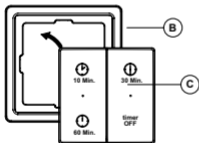

Fig 5.
2. If necessary, place switch C in frame B (fig. 5) and press the switch until it clicks into place.